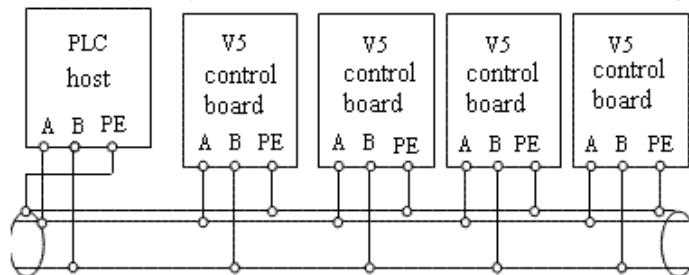
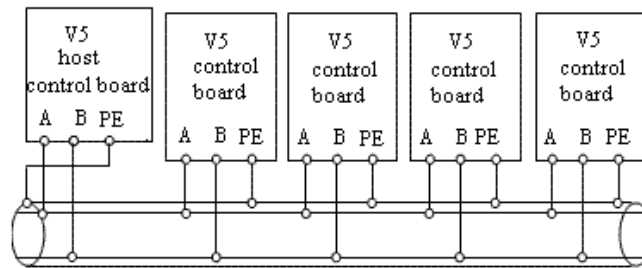

Fig. 2-10 Connection of PLC and inverters
Fig. 2-11 Connection of several inverters
- More than one inverters can be connected through RS485 with the PLC(or PC) as the host, as shown in Fig.2-10; Also, you can select one inveter as host and the other inverters as slaves, as shown in Fig.2-11. Because with increasing of the inverter’s quantities, the communication system will be interfered easier, the following wiring is recommended.